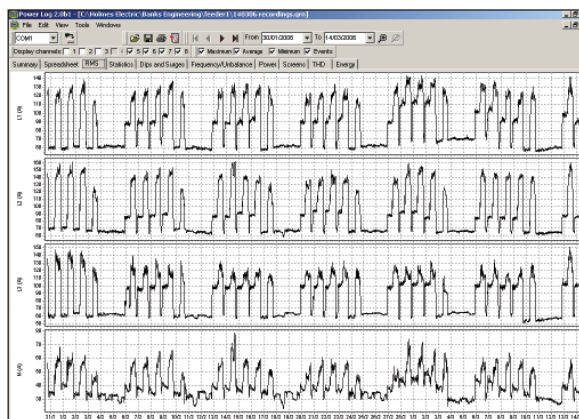

Figure 4. Power Log graphs showing detailed current records.
5. **Download and review the measurements.** For 30 days of recording, with a measurement every 15 minutes, you will have 2880 sets of measurements. Use Power Log to graph this data, find the maximum current or power on each phase, compare the three phases and report the largest number. Figure 4 shows three phase-current recordings, zoomed in to show detail.